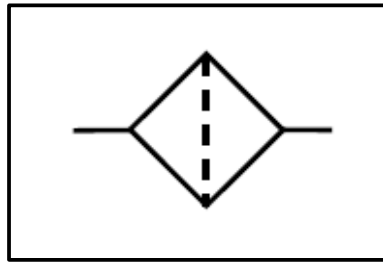

FIGURE 4.14
- 4.14 Identify the symbol, shown in FIGURE 4.14 below, which relates to a pneumatic system.